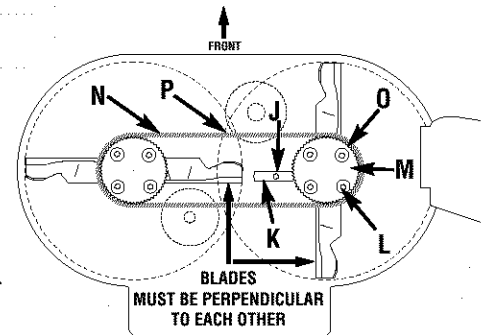

Figure 5-6: Blade Spindle Belt.
3. Align sight holes (O, Figure 5-6) in pulley with spindle housing-to-mower deck mounting bolts (L).
4. Loosen screw (J) and rotate arm (K) to the rear.
5. Loosen four mounting bolts (L) securing spindle housing (beneath mower deck) to mower deck.
7. Replace belt (N) with new belt. IMPORTANT: SET BLADES PERPENDICULAR (90°) TO EACH OTHER.
8. Rotate arm (K) to move spindle housing and apply tension to belt. Belt cogs and pulley grooves must mesh together. When applying moderate finger tension (8-12 lbs.), belt should deflect approximately 1/2" (12.7 mm) at (P), midpoint of deck.
9. Tighten bolts (L) to 15 ft.-lbs. (20.3 Nm). Tighten screw (J).